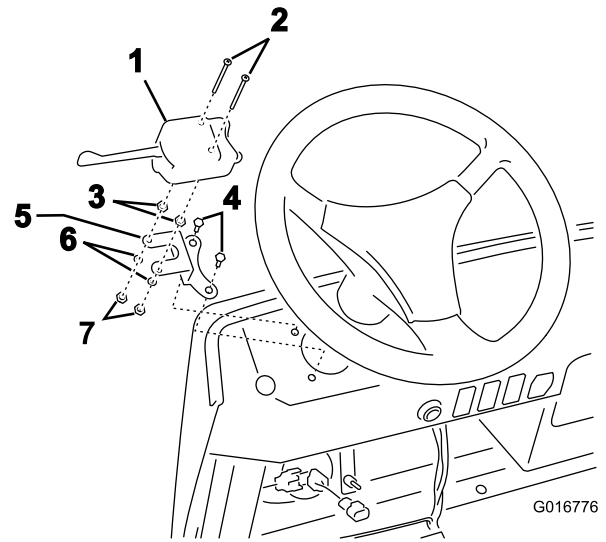

Figure 2
2. Remove the 2 existing screws from the turn signal controller, and replace them with the longer screws from loose parts (Figure 2).